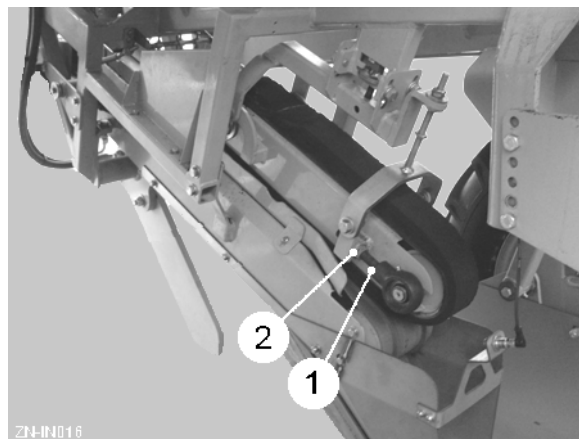

Fig 25
The placement belts are tensioned by the threaded rods (item 1, fig 25). To adjust, reposition the locknuts (item 2, fig 25).